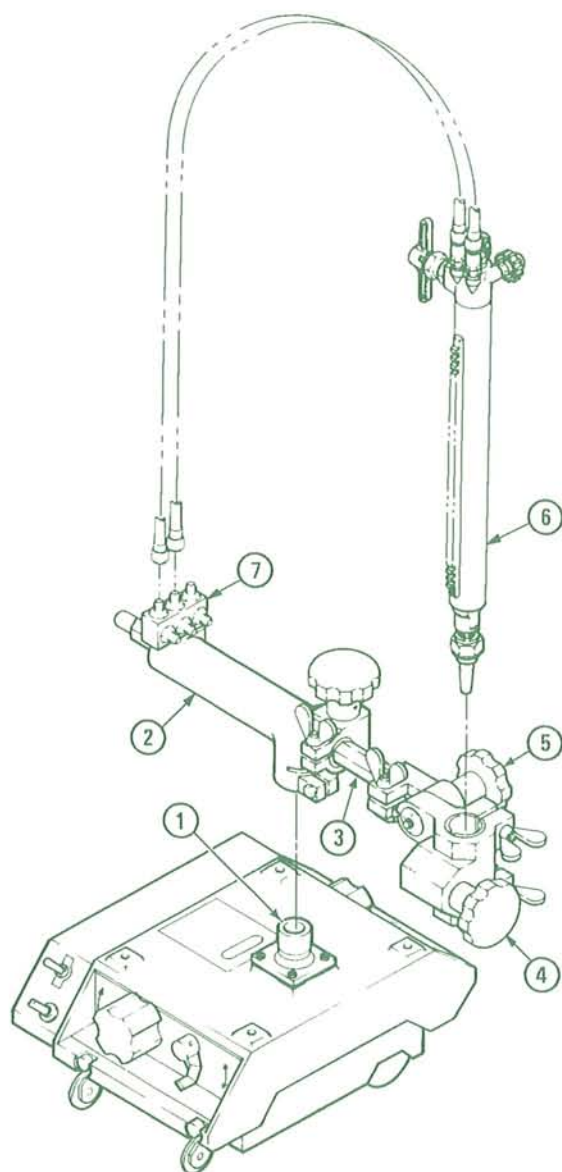

Figure 2-1.
Set-up of the VCM-200 with standard torch mount and manifold block is shown in Figure 2-1. Secure the single torch mount post (1) the outer case mounting surface with four allen-head cap screws. Slip the rack handle assembly (2) over the torch mount post and secure it with its set-screw. The rack handle assembly is free to rotate until the clamping bolt is tightened. Insert racking bar assembly (3) so that its rack properly engages the pinion gear in the rack handle assembly.